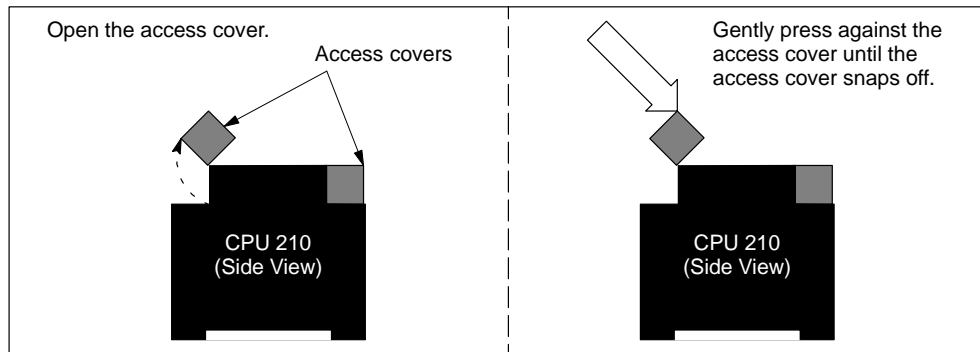

Figure 1-8 Removing the Access Covers from the CPU 210
1. Open one of the I/O access covers on the CPU 210. As shown in Figure 1-8, remove the access cover by gently pressing against the access cover until the hinges spring free. Repeat this procedure for the other access cover.